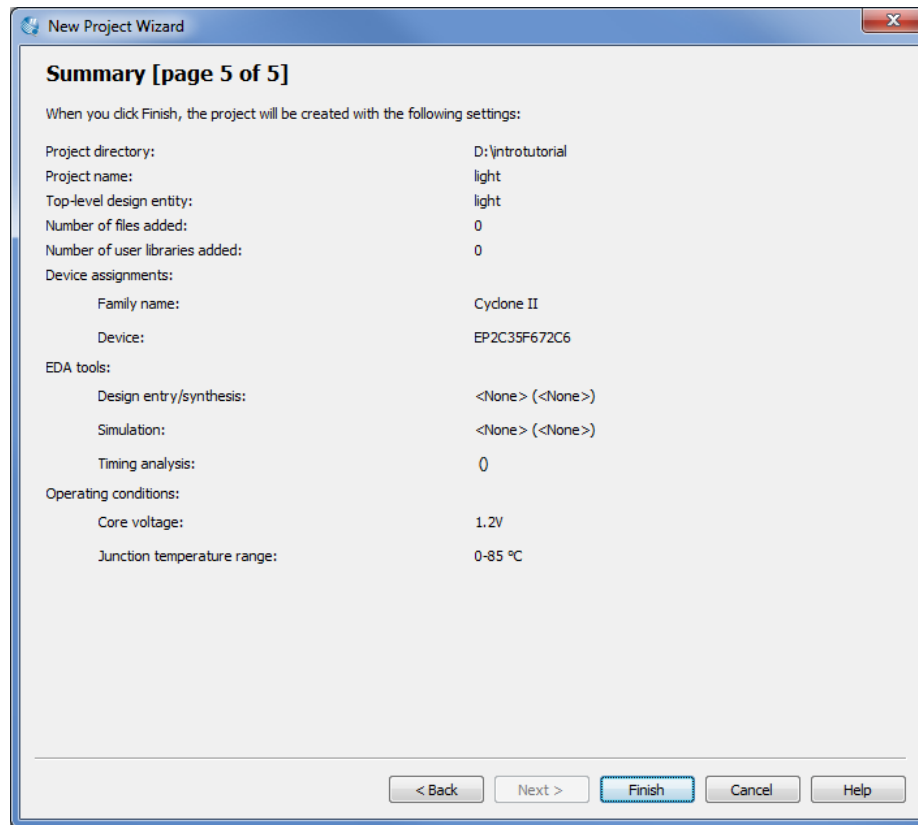
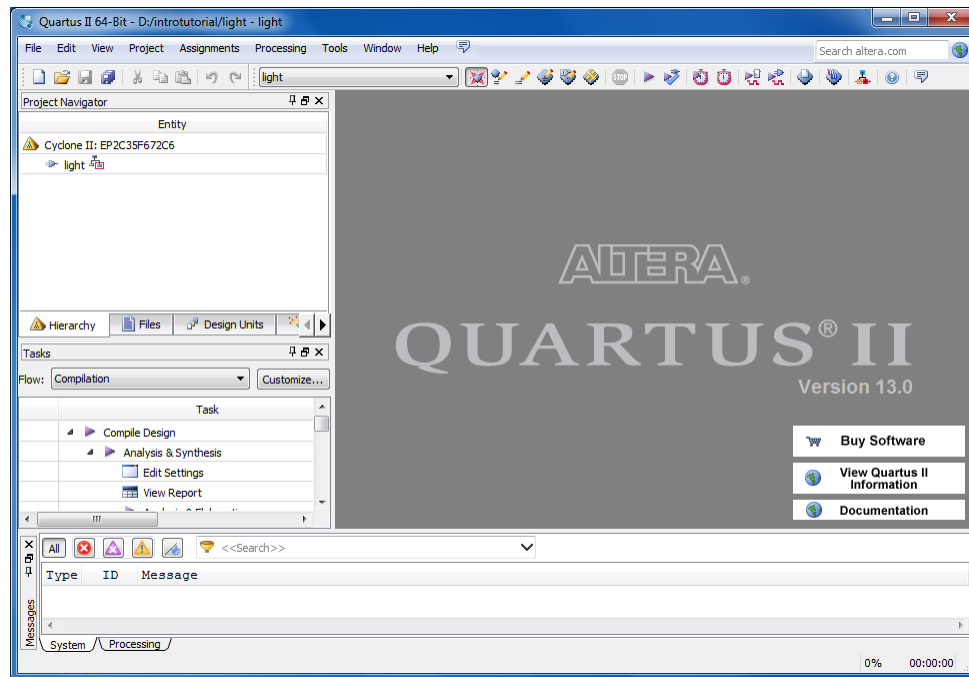

Figure 9. Summary of project settings.
Figure 10. The Quartus II display for a created project.
6. **A summary of the chosen settings appears in the screen shown in Figure 9. Press Finish, which returns to the main Quartus II window, but with *light* specified as the new project, in the display title bar, as indicated in Figure 10.**